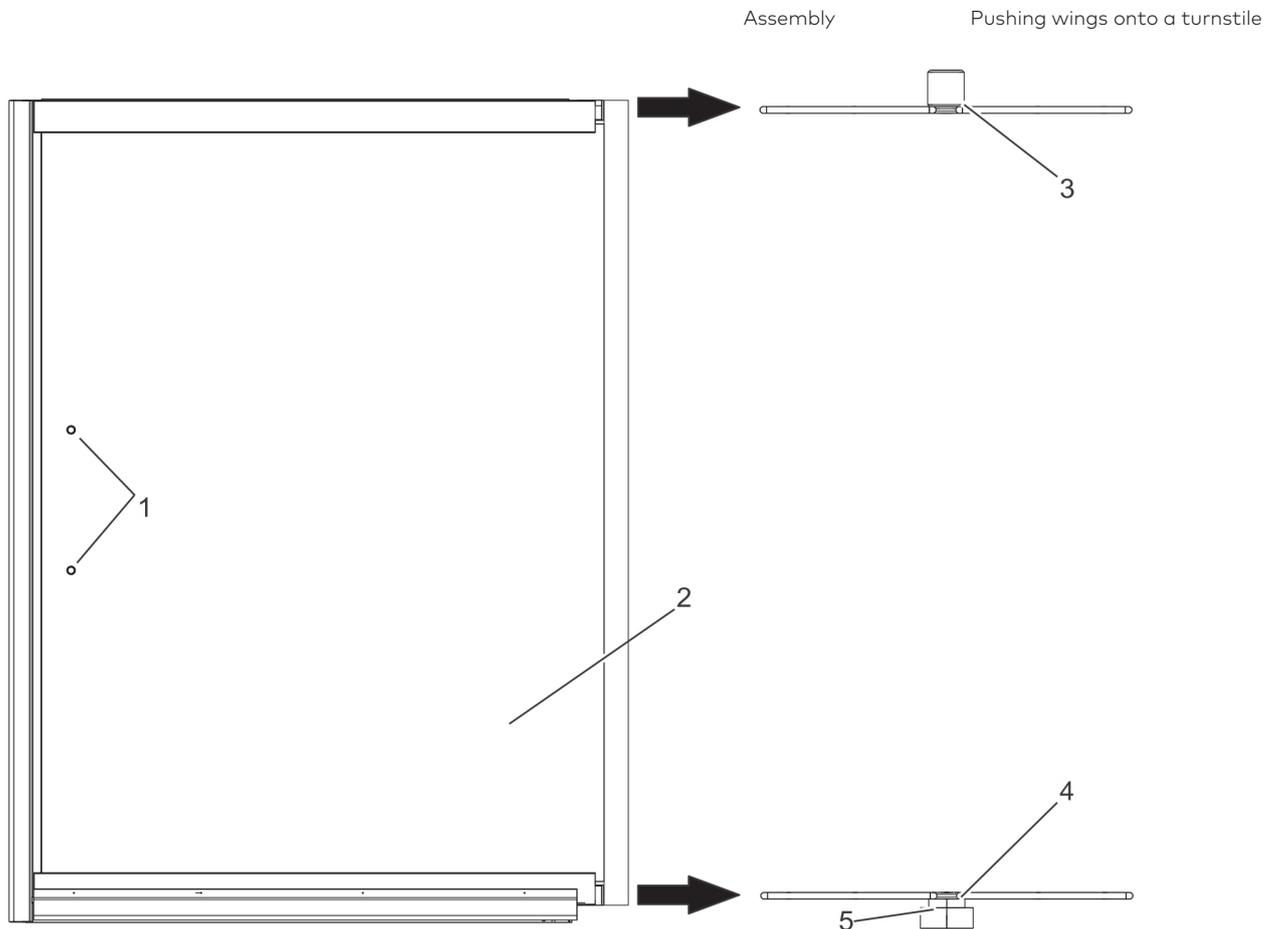

Fig. 101 Pushing on wing (rigid turnstile)
1. Insert the floor bearing into the bearing shell (Fig. 101/5) according to the manufacturer's instructions provided and lubricate it.
2. Remove the transport securing devices on the lower and upper edge of the wing (Fig. 101/2).
Position the 1st wing (Fig. 101/2) with the back in front of the upper and lower cross fitting (Fig. 101/3 + 4) as shown in Fig. 101. In doing so, lower and re-adjust the upper cross fitting (Fig. 101/3) as necessary.
Carefully push the wing (Fig. 101/2) onto the lower and upper cross fitting (Fig. 101/3 + 4). If necessary, Remove the strap from the upper cross fitting (Fig. 101/3) when pushing on the wing (Fig. 101/2).
5. Connect the upper cross fitting (Fig. 101/3) with the wing.
6. Connect the lower cross fitting (Fig. 101/4) with the wing.
7. Push on the 2nd wing (Fig. 101/2) as described in steps 3–6 and connect with cross fittings (Fig. 101/3 + 4).
8. Push on the 3rd wing according to steps 3–6 and connect with cross fittings (Fig. 101/3 + 4).
9. If necessary, Guide wing connecting cable from above through the toothed shaft in the operator to the upper cross fitting (Fig. 101/3) and connect to wing cables.
10. Position the 4th wing (Fig. 101/2) with the back in front of the upper and lower cross fitting (Fig. 101/3 + 4) as shown in Fig. 101. In doing so, lower and re-adjust the upper cross fitting (Fig. 101/3) as necessary.
- 17. Connect the upper cross fitting (Fig. 101/3) with the wing.
- 18. Connect the lower cross fitting (Fig. 101/4) with the wing.
25. If necessary, Mount the handles to the pre-drilled holes (Fig. 101/1) in the wings (Fig. 101/2).